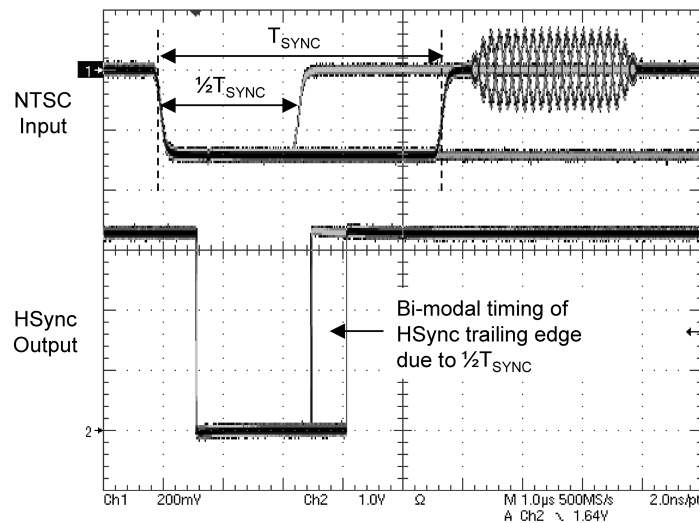

Figure 13. Bi-modal Timing on HSync's Trailing Edge for Half-Width Pulses for NTSC
**Important:** The HSync output has good performance on its negative-going leading edge, so it should be used as the reference to a negative-edge triggered PLL input. If HSync is used as the reference to a positive-edge triggered PLL input, like in some FPGAs, the signal must be inverted first to produce a positive-polarity HSync signal (i.e.: positive-going leading edge) before the PLL input. HSync's trailing edge **should not** be used as the reference to a PLL because for a NTSC/PAL input, the input's half-width pulses ( $\frac{1}{2}T_{\text{SYNC}}$ ) in the vertical interval cause the trailing edges of the HSync output to occur earlier than for the normal-width sync pulses ( $T_{\text{SYNC}}$ ). This bi-modal timing variation on HSync's trailing edge, as shown in Figure 13, could affect the performance of the PLL. The bi-modal trailing edge timing also occurs on the CSync output as well.